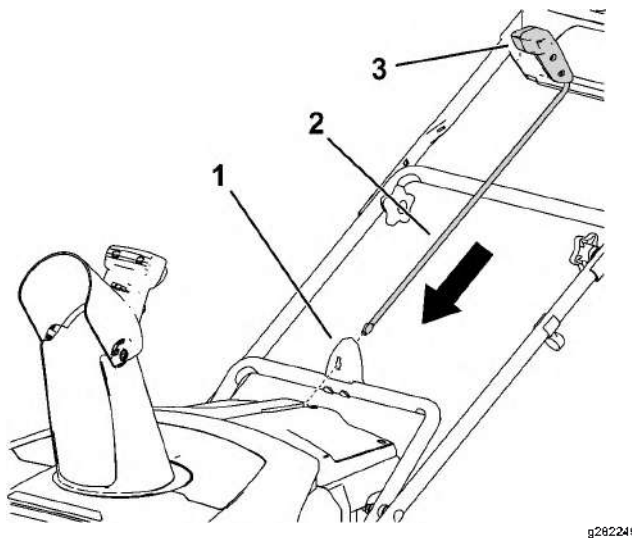

Figure 8
1. Ensure that the chute is facing forward (Figure 8).
2. With the handle facing forward, install the chute-control rod into the guide and push it down until it snaps into place (Figure 8).